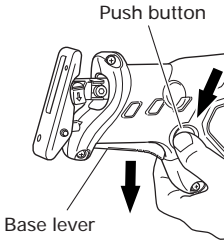

Fig. 11
- (1) Press a pushbutton. When you do this, a base lever will jump out to prepare the base for adjustment. (Fig. 11)